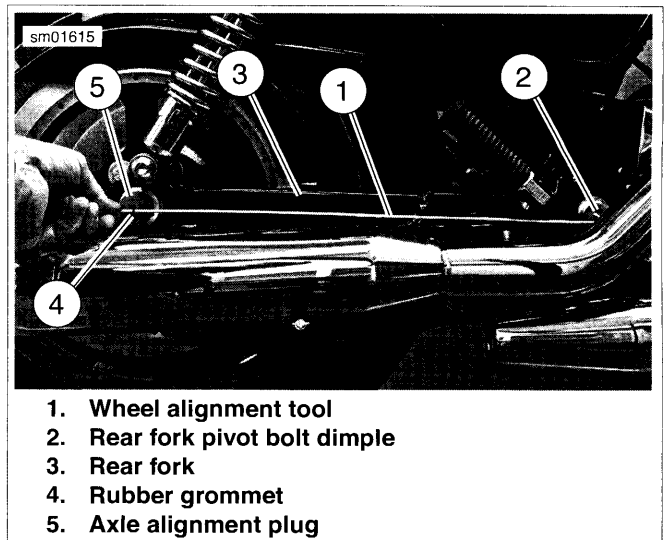

Figure 1-63. Checking Wheel Alignment Using Wheel Alignment Tool (XL Models Shown)
4. Figure 1-63. Insert blunt point of alignment tool in rear fork pivot bolt dimple (2) on right side of rear fork (3). Slide rubber grommet along tool shaft until it aligns with hole in center of alignment plug (5). Without moving grommet, position alignment tool on left side of rear fork. Verify that distance between rear fork pivot bolt and rear axle alignment plug center is the same as on right side.